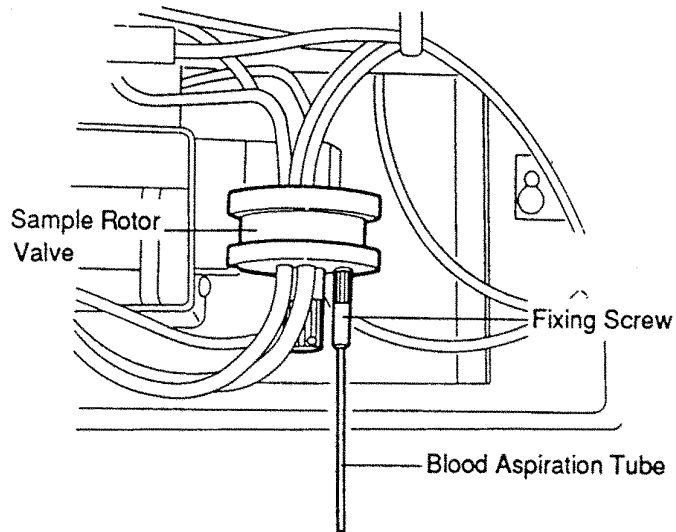

Figure 6-4-1 Location of Sample Aspiration Tube
- B. The Sample Aspiration Tube is connected to the Sample Rotor Valve as shown in Figure 6-4-1.